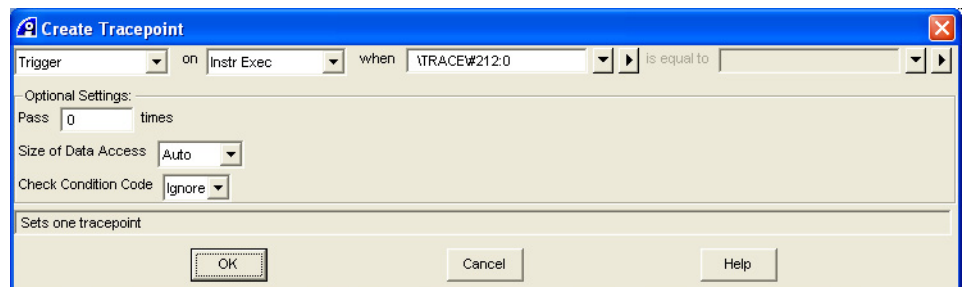

Figure 7-2 Create Tracepoint dialog box
2. Select **Create Tracepoint...** from the context menu to display the Create Tracepoint dialog box. Figure 7-2 shows an example: